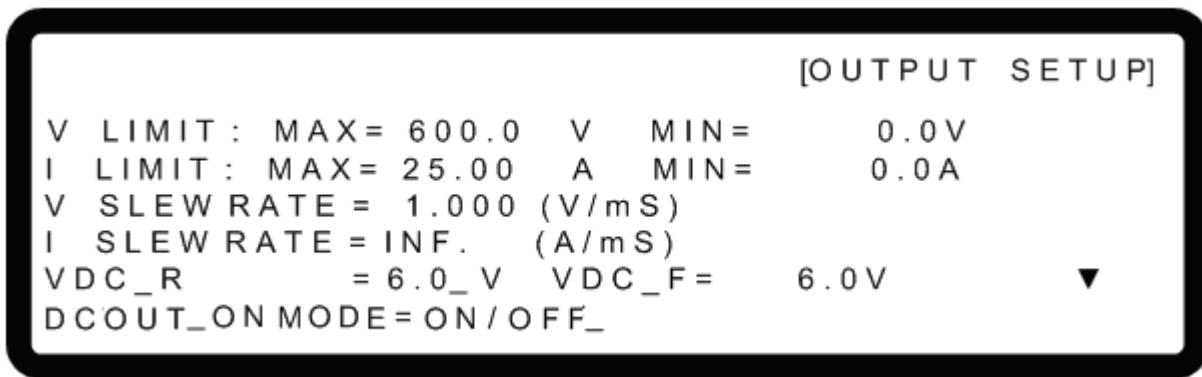

Figure 3-26
- Method 2: Use the “”, “”, “”, “” keys to move the cursor to the column to be set as shown in Figure 3-26.